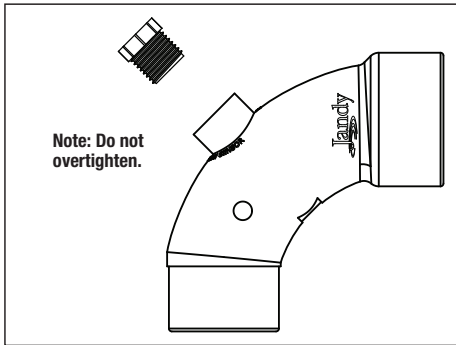

Figure 6. Sweep Elbow
- a. The larger JS series sand filters come with a Jandy Pro Series Sweep Elbow for this purpose. The sweep elbow also includes a threaded port and plug so that a ½" hose bib can be connected for pressure testing. See Figure 6.